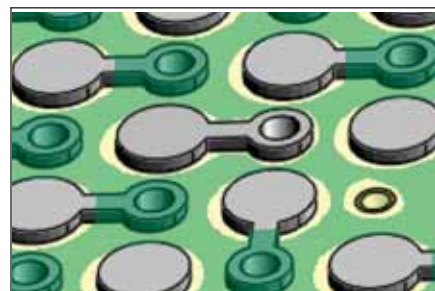

Figure 1 Mill a hole through the board and insert a Teflon sleeve.
4. Mill a hole through the board at the precise coordinates using a Precision Drill System and End Mill of the appropriate size. (See Figure 1 and 5.)
8. Insert an appropriately sized Teflon sleeve into the milled hole. This sleeve will insulate foil jumper and prevent shorting to the inner layers. (See Figure 1.)